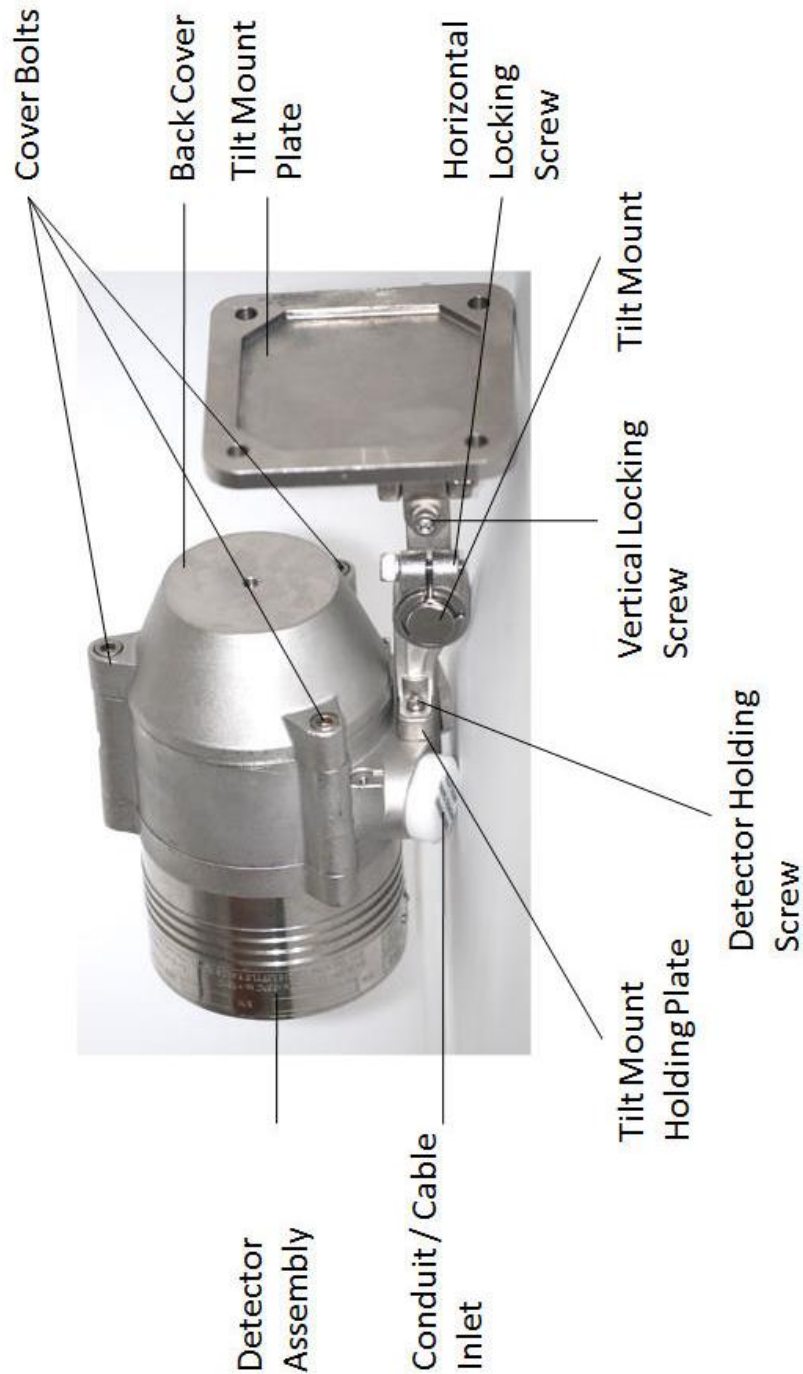

Figure 4: Detector with Tilt Mount
Figure 4 shows the detector mounted on the tilt mount.
- 9** Place and secure the detector's back cover by screwing the 3 socket-head-screws in the cover bolts (Figure 4).